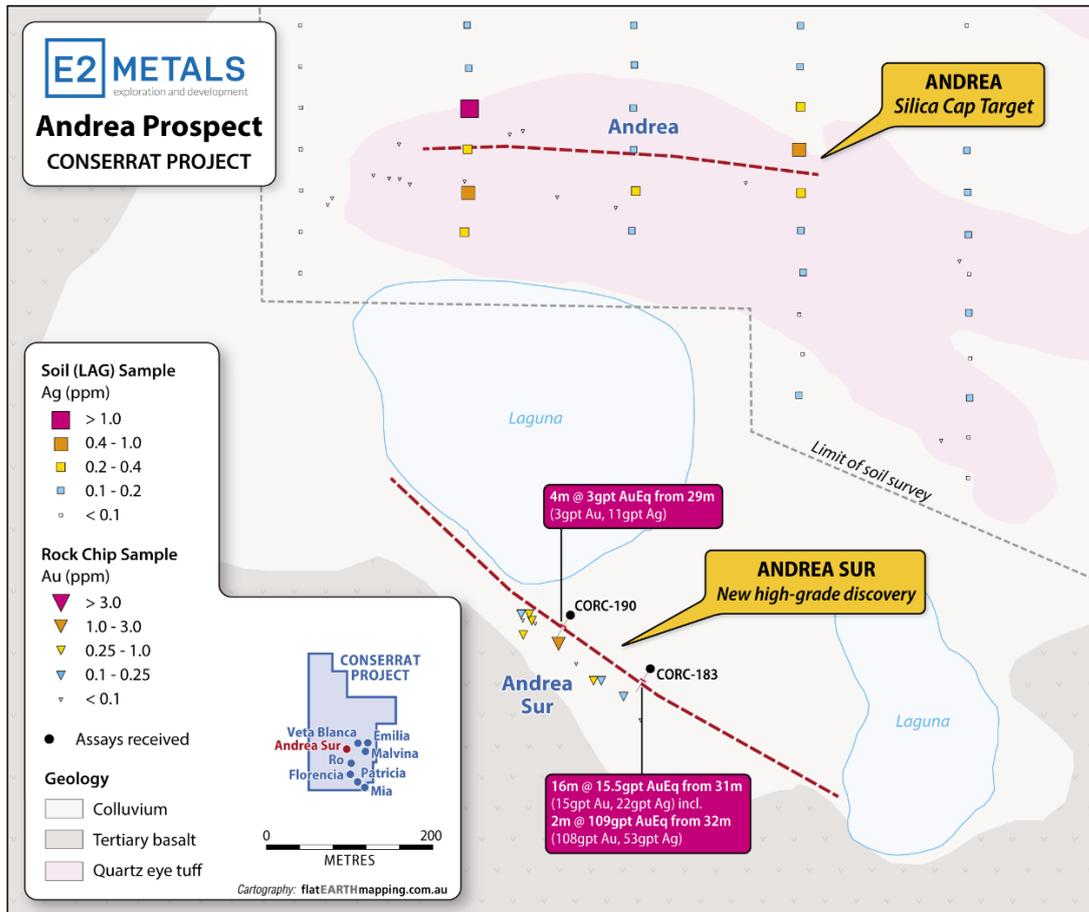

Figure 2: Andrea Sur drill hole location plan
Gold and silver assay results have been received for 2 scout Reverse Circulation (RC) holes totaling 129m (see Figure 2 & Table 1). Drill samples were submitted to Alex Stewart in Perito Moreno, Santa Cruz and analysed for gold and silver via Fire Assay.
The discovery is also located 500m south of the **Andrea Silica Cap** target which is host to silica alteration typical of the upper levels of an epithermal vein system. The alteration cap is coincident to a silver soil anomaly with maximum values of 1.3gpt Ag and measured dimensions of 600m by 150m (see Figure 2). Drilling of similar targets elsewhere in the Deseado Massif has led to significant blind discoveries (e.g., Silica Cap, Cerro Negro).
| Drill Hole Information | <ul style="list-style-type: none"> • A summary of all information material to the understanding of the exploration results including a tabulation of the following information for all Material drill holes: <ul style="list-style-type: none"> • Easting and northing of the drill hole collar • Elevation or RL (Reduced Level – elevation above sea level in metres) of the drill hole collar • Dip and azimuth of the hole • Down hole length and interception depth • Hole length <p>If the exclusion of this information is justified on the basis that the information is not Material and this exclusion does not detract from the understanding of the report, the Competent Person should clearly explain why this is the case.</p> | <ul style="list-style-type: none"> • Drill holes are shown in Table 1 and Figures 2 |